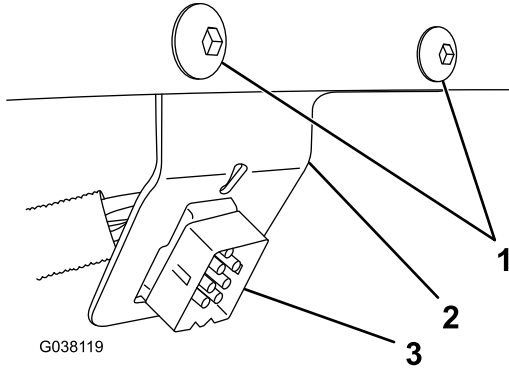

Figure 9
2. Pull the plow controller connector and black/red wire under the hood and into the vehicle cab (Figure 9).
3. Mount the plow controller connector to the dash bracket, and secure the bracket to the left of the steering wheel using 2 self-tapping bolts (Figure 9).